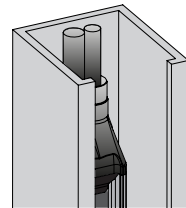

Figure 7: GridScan/Pro with door blanking (blanking mode)
- ▶ Mount the receiver edge into the guiding rail next to the door control unit (Figure 7).